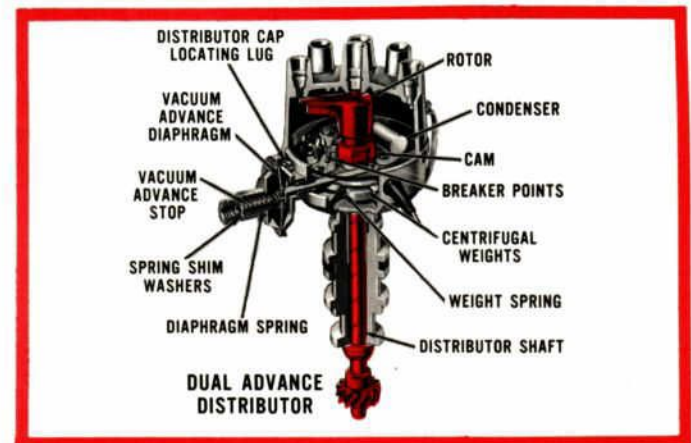

Figure 3—Distributor Components
**Distributor**—Distributor components not only carry both low and high voltage current, but they also mechanically time the spark plugs to fire at the right moment. The distributor shaft is geared to the camshaft which rotates at one-half crankshaft speed. A cam is attached to the upper end of the shaft. Figure 3.
1. Remove the coil high tension lead from the center of the distributor cap. Figure 3.